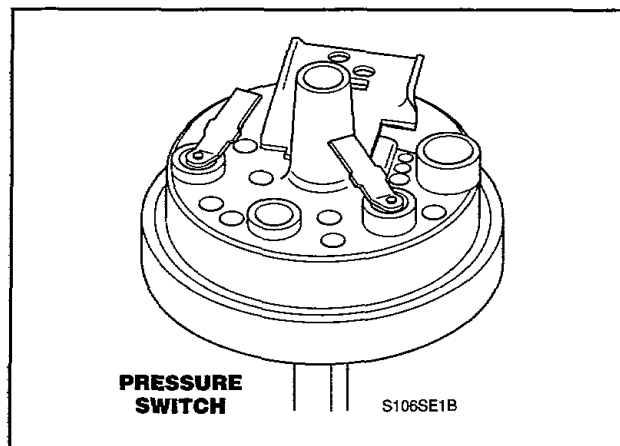

Figure 56
44. PRESSURE SWITCH (Refer to Figure 56)